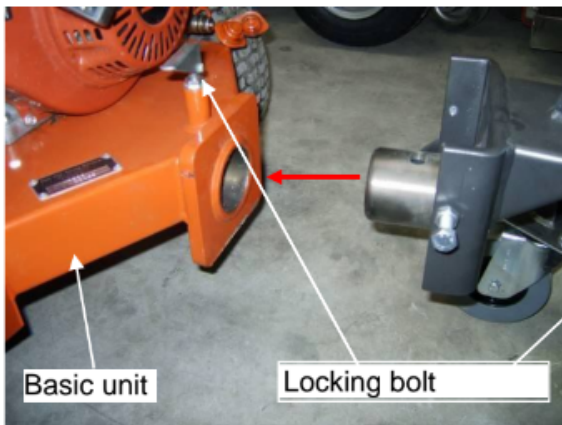

Fig. 1
1. Pull up the locking pin (see Fig.1 and 2).